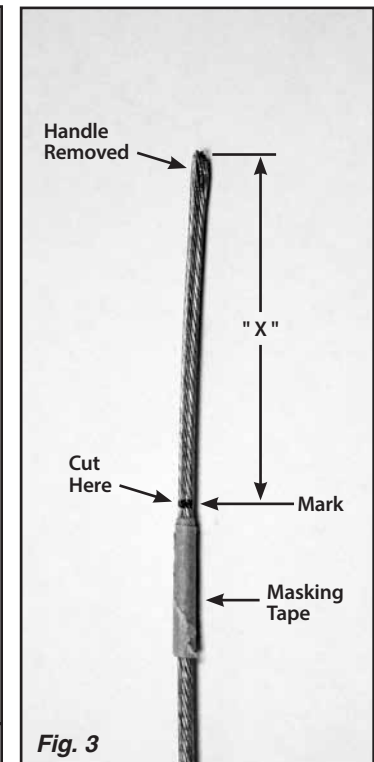

Fig. 3
Step 5: Measure down from the top end of the inner measuring cable and make a mark at the distance you recorded in **Step 6**. Wrap 2 or 3 turns of masking tape around the inner measuring cable immediately below your mark. **Fig. 3**